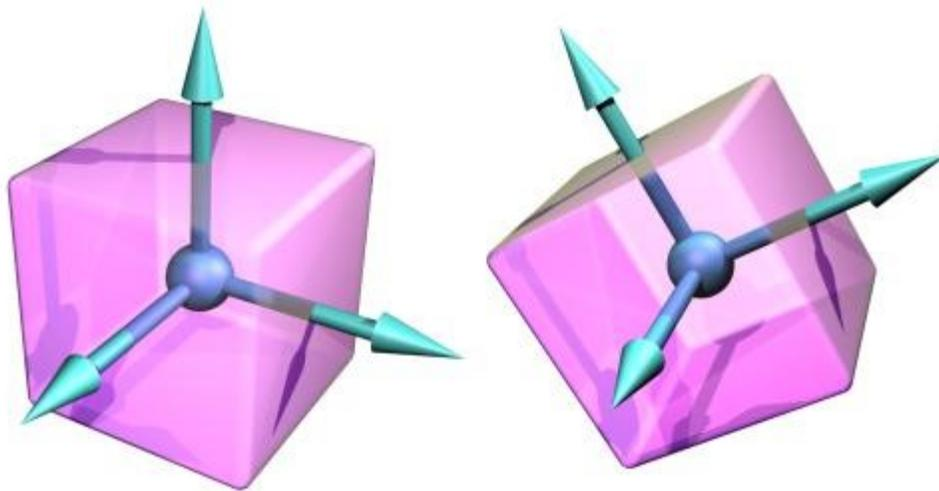

Figure 1: The body coordinate frame.
- Inertia matrix. This is a 3x3 matrix that describes how the body's mass is distributed around the center of mass. Conceptually each body has an x-y-z coordinate frame embedded in it, that moves and rotates with the body, as shown in figure 1.